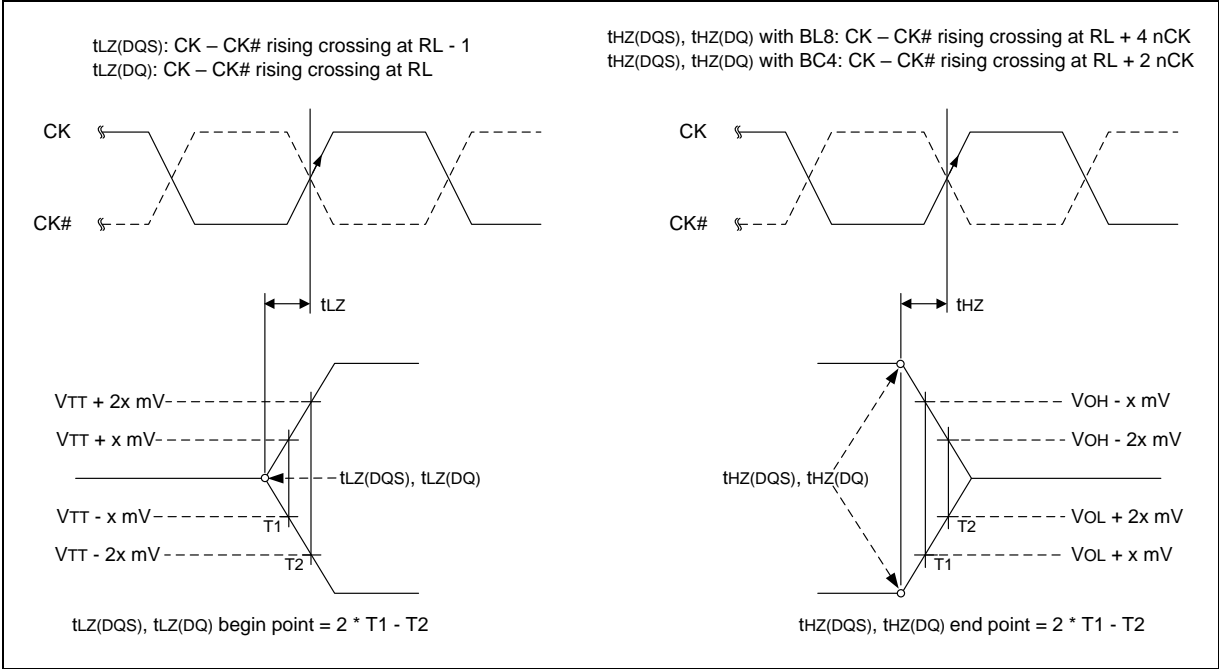

Figure 26 – tLZ and tHZ method for calculating transitions and endpoints
$t_{LZ}(\text{DQS})$, $t_{HZ}(\text{DQS})$ for preamble/postamble (see section 8.13.2.3 and Figure 26).
8.13.2.3 tLZ(DQS), tLZ(DQ), tHZ(DQS), tHZ(DQ) Calculation
tHZ and tLZ transitions occur in the same time window as valid data transitions. These parameters are referenced to a specific voltage level that specifies when the device output is no longer driving tHZ(DQS) and tHZ(DQ), or begins driving tLZ(DQS), tLZ(DQ). Figure 26 shows a method to calculate the point when the device is no longer driving tHZ(DQS) and tHZ(DQ), or begins driving tLZ(DQS), tLZ(DQ), by measuring the signal at two different voltages. The actual voltage measurement points are not critical as long as the calculation is consistent. The parameters tLZ(DQS), tLZ(DQ), tHZ(DQS), and tHZ(DQ) are defined as singled ended.